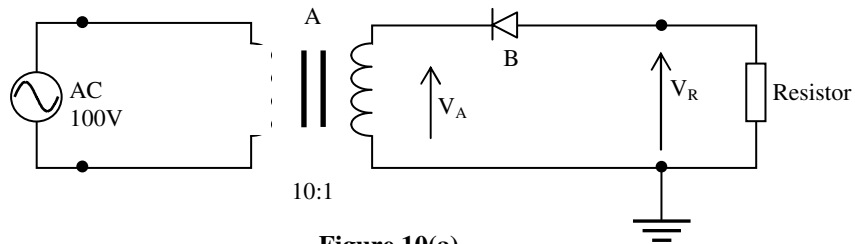

Figure 10(a)
10. (a) Figure 10(a) shows a circuit diagram.